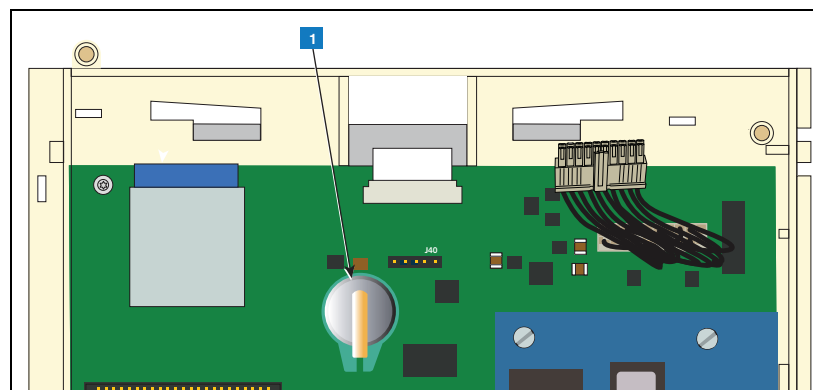

Figure 7. Locating iButton on Older Console CPU Boards
3. Locate the Features iButton (Item 1 in Figure 7).
LEGEND FOR NUMBERED BOXES IN Figure 7